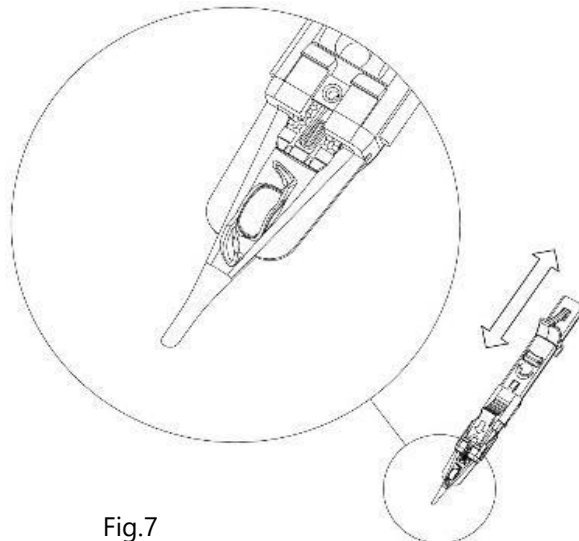

Fig.7
- Once the IOL reaches the "cartridge wings" as shown in Fig. 7, stop pushing and pull the plunger back to the end. Push the plunger again to remove any air from the nozzle. Enter the eye and then continue pushing slowly. If you experience too much resistance at any phase of the injection, or you can see a part of the haptic trapped between the red soft tip and the cartridge wall, pull the plunger back a few millimeters and then push it again.